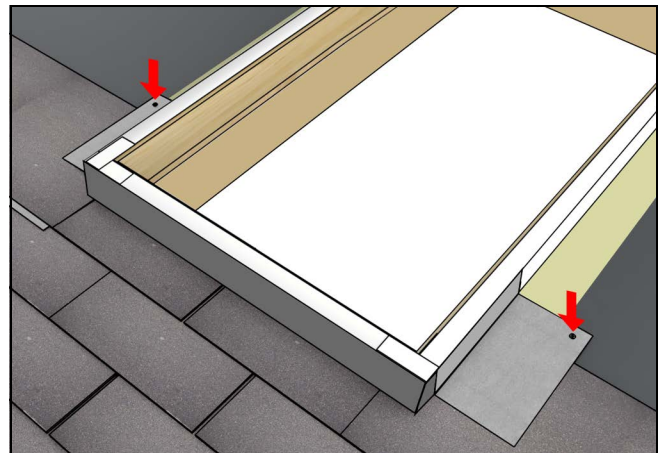
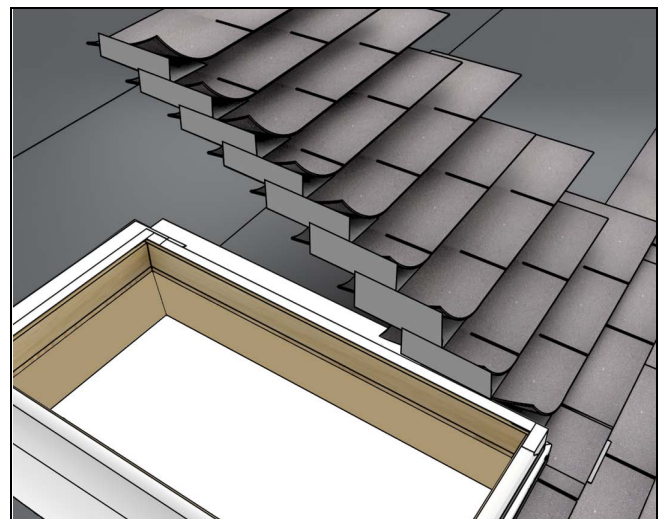

Figure 36
Figure 37
8. Place the second step flashing as shown in Figure 36. *Align with bottom of shingle.* Repeat steps until near the head jamb. See Figure 37.